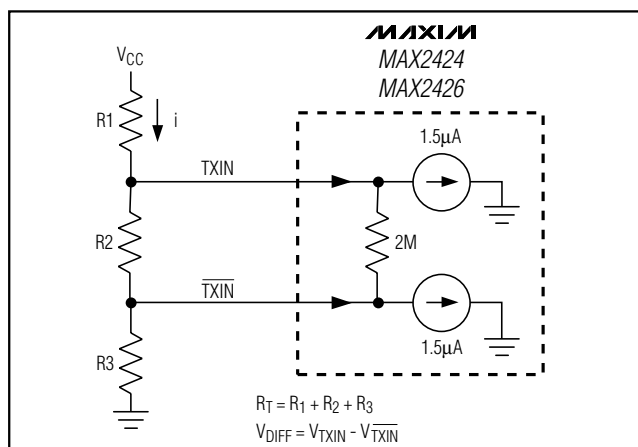

Figure 3. Biasing TXIN and TXIN for FM
Frequency modulation (FM) is realized by modulating the VCO tuning voltage. Apply the appropriate differential and common-mode voltages to TXIN and  $\overline{TXIN}$  to control transmitter output power (Figure 3).